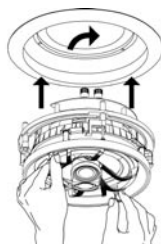

Figure 3. Installing the loudspeaker
2. Remove the loudspeaker module from the frame by turning the loudspeaker assembly counter-clockwise using the two tabs provided. Place the loudspeaker assembly to the side when removed for installation after the frame has been mounted. Take care to place it so that the woofer, tweeter or crossover on the rear are not damaged. (See **Figure 3**)